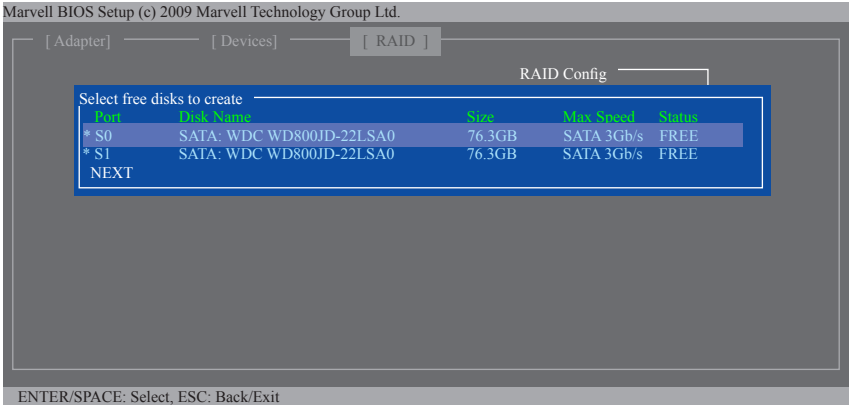

Figure 6
Step 2: The next screen displays the two hard drives you installed. Press <Enter> or <Space> on the two hard drives respectively to add them into the RAID array. Selected hard drives are marked with an asterisk (Figure 6). Then press <Enter> on **NEXT**.